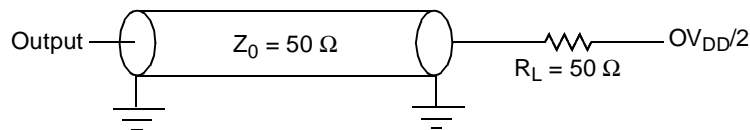

Figure 14. Local Bus C Test Load
Figure 14 provides the AC test load for the local bus.
- All outputs are measured from the midpoint voltage of the falling/rising edge of t_{TCLK} to the midpoint of the signal in question. The output timings are measured at the pins. All output timings assume a purely resistive 50-Ω load (see Figure 14). Time-of-flight delays must be added for trace lengths, vias, and connectors in the system.
- The symbols used for timing specifications follow the pattern of $t_{(first\ two\ letters\ of\ functional\ block)(signal)(state)(reference)(state)}$ for inputs and $t_{(first\ two\ letters\ of\ functional\ block)(reference)(state)(signal)(state)}$ for outputs. For example, t_{JTDVXH} symbolizes JTAG timing (JT) with respect to the time data input signals (D) reaching the valid state (V) relative to the t_{JTG} clock reference (K) going to the high (H) state or setup time. Also, t_{JTDVXH} symbolizes JTAG timing (JT) with respect to the time data input signals (D) went invalid (X) relative to the t_{JTG} clock reference (K) going to the high (H) state. Note that, in general, the clock reference symbol representation is based on three letters representing the clock of a particular functional. For rise and fall times, the latter convention is used with the appropriate letter: R (rise) or F (fall).